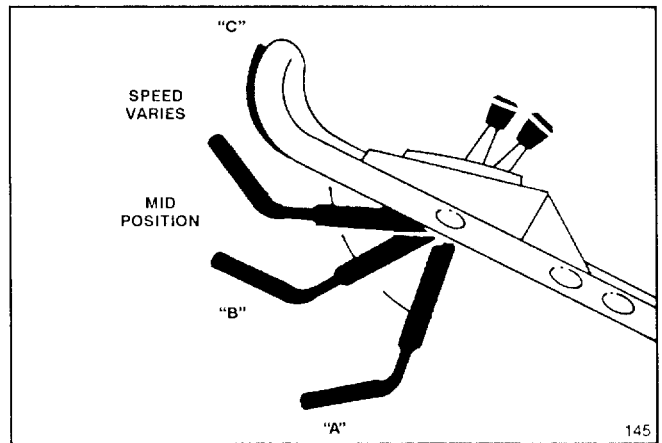

Figure 7
**6. BLADE AND TRACTION OPERATION** (Fig. 7) – Move control bar down to "A" and raise to "B" to engage blade. Squeeze control bar against handle "C" to drive. Ground speed varies, depending on space between control bar and handle. To disengage traction drive but keep blade engaged, gradually release control bar to mid position. To self-propel with blade disengaged, simply squeeze control bar against handle, eliminating downward movement necessary for blade engagement.
**7. STOPPING** (Fig. 7) – Release control bar to stop blade and traction drive. Move ground speed control to "N". To stop engine, move throttle to OFF. Remove key from switch on electric start model or pull wire off spark plug if mower will be unattended or not used.